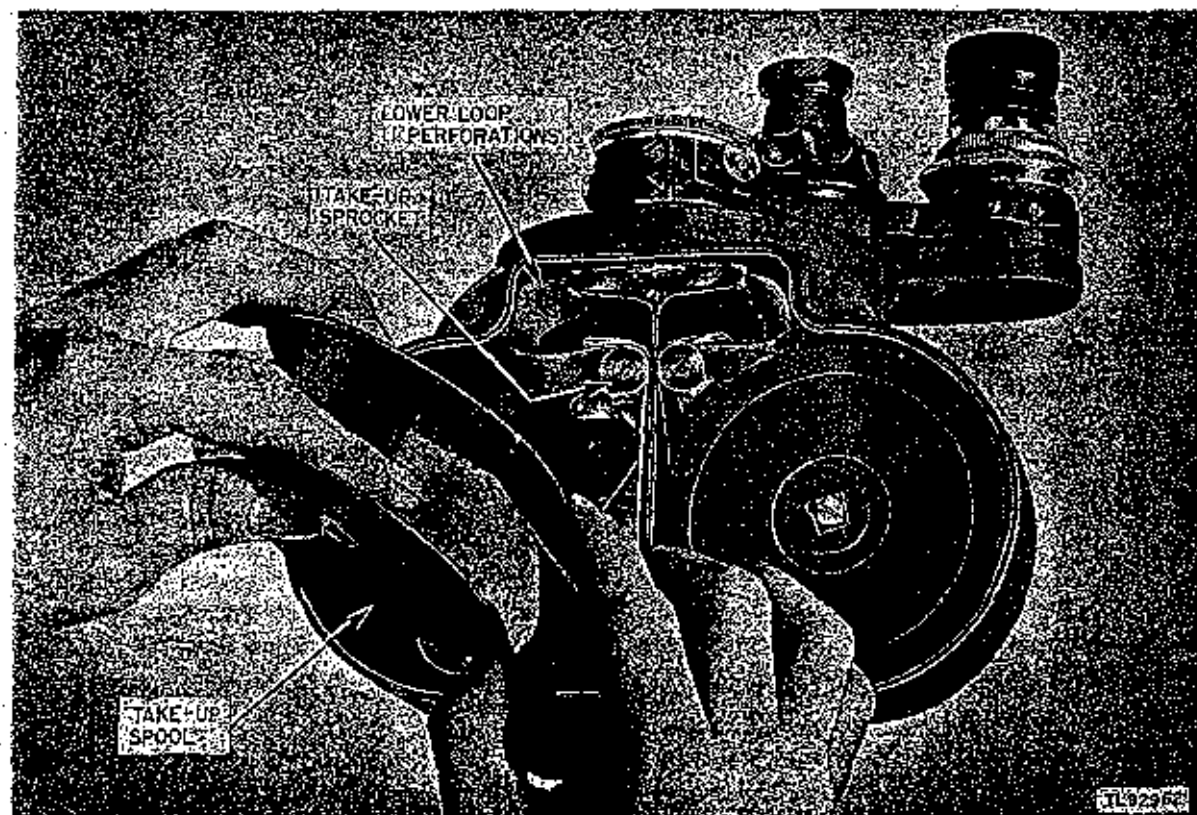

Figure 28. Loading, Camera PH-330-(*); inserting film leader in take-up spool.
l. Insert the end of the film into the slot on the hub of the take-up spool (fig. 28), winding it clockwise until most of the slack film has been wound on. Place the spool on the take-up spindle.